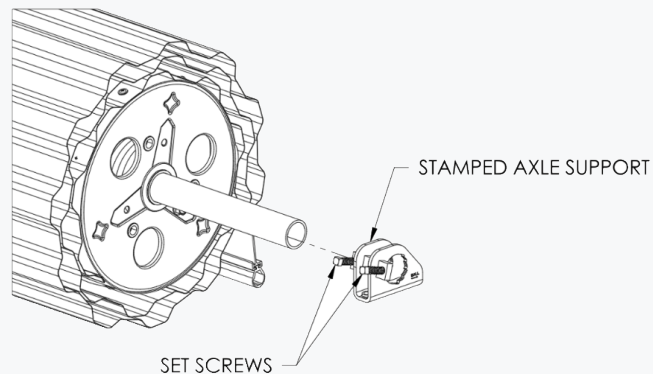

figure 8: Stamped Axle Support Installation
- ✦ Using one (1) Stamped Axle Support per side, with directional arrows pointing towards wall, slide Stamped Axle Support over axle.
- ✦ Tighten 3/8-16 square head set screws hand tight, will position and tighten completely once door is installed. See Figure 8.